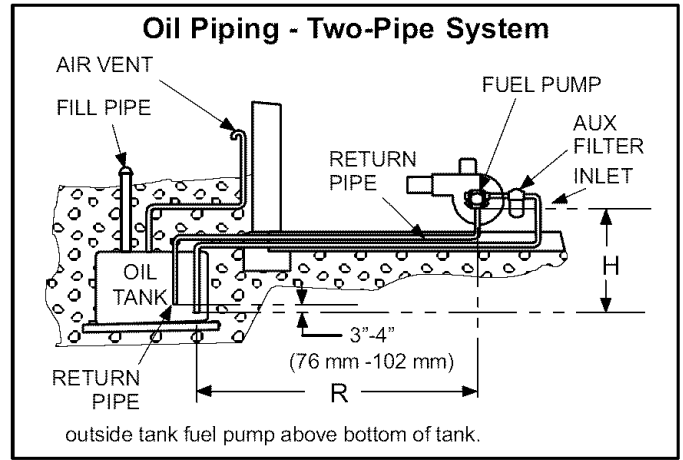

Figure 16
When using a two-pipe system (see figure 16) with the oil tank below the level of the burner, use a single-stage fuel pump in lift conditions of up to 10 feet (3 m) and/or a vacuum of 10" (254 mm) Hg or less. Use a two-stage fuel pump when lift exceeds 10 feet (3 m) and/or a vacuum of 10" (254 mm) Hg to 15" (381 mm) Hg. Both conditions require that you use of a two-pipe system, which consists of a return line that purges the fuel pump of air by returning it to the tank. To determine the run and lift for piping, refer to table 4
2. Insert bypass plug and tighten it (see figure 16).
4. The return pipe must terminate 3" to 4" above the supply pipe inlet (see figure 16).